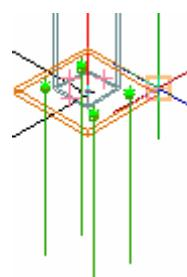

Figure 300: Level symbol insertion point
2. Select the insertion point on top of the base plate from the **G6** base plate joint, as in Figure 300.